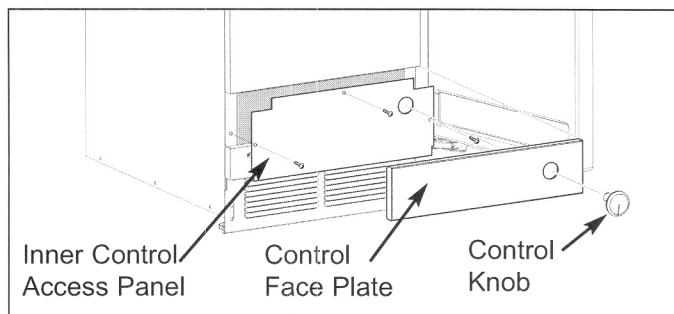

Figure 4-17.
2. Remove the control knob, the control face plate and the inner control access panel. (See Figure 4-17)